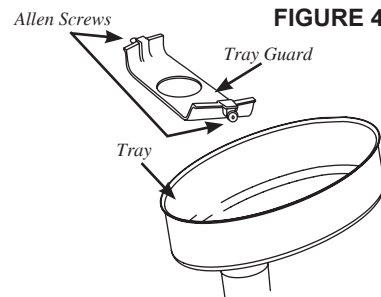

FIGURE 4
8. Loosen the **Allen Screws** in the **Tray Guard** until the screw ends are flush with the **Tray Guard** (Figure 4).